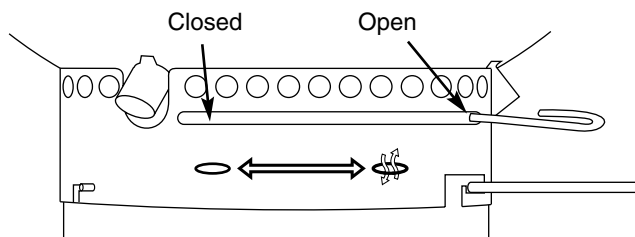

Figure 2
- 3) Open bottom bowl vents. Figure 2.